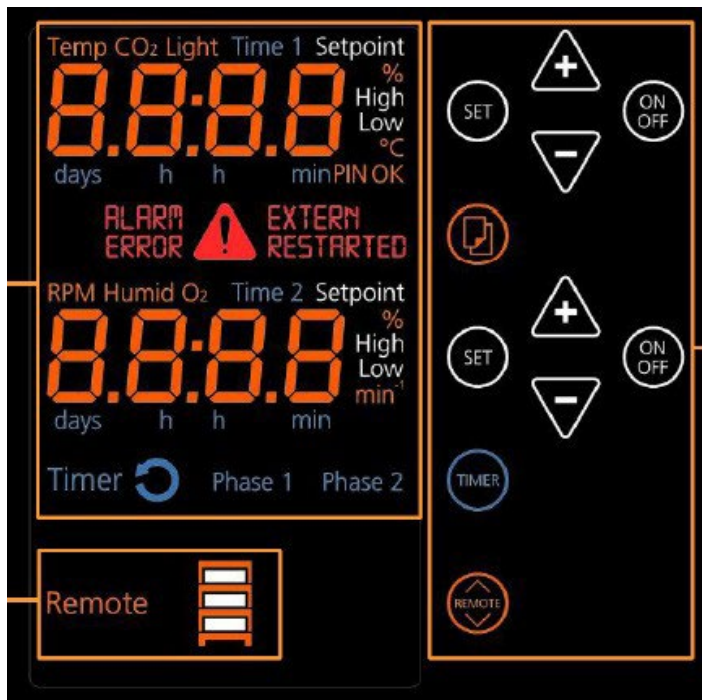

Figure 25. Multitron “Pro” Operating Panel
To program the address of a Multitron “Pro”, refer **Figure 25** and follow these instructions:
- c. Power ON the Multitron incubator using the green power switch on the left side of the unit, and then watch the unit’s front panel display (refer **Figure 25**).